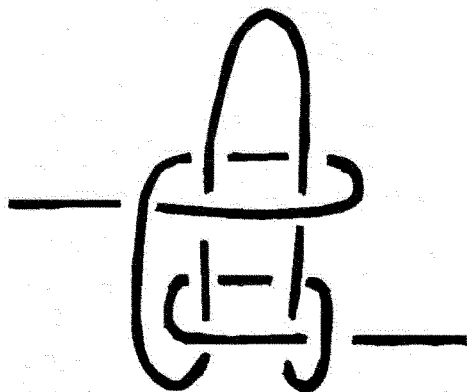

Fig 1
3. Draw the knot as seen showing all the crossings clearly. (Fig.1)